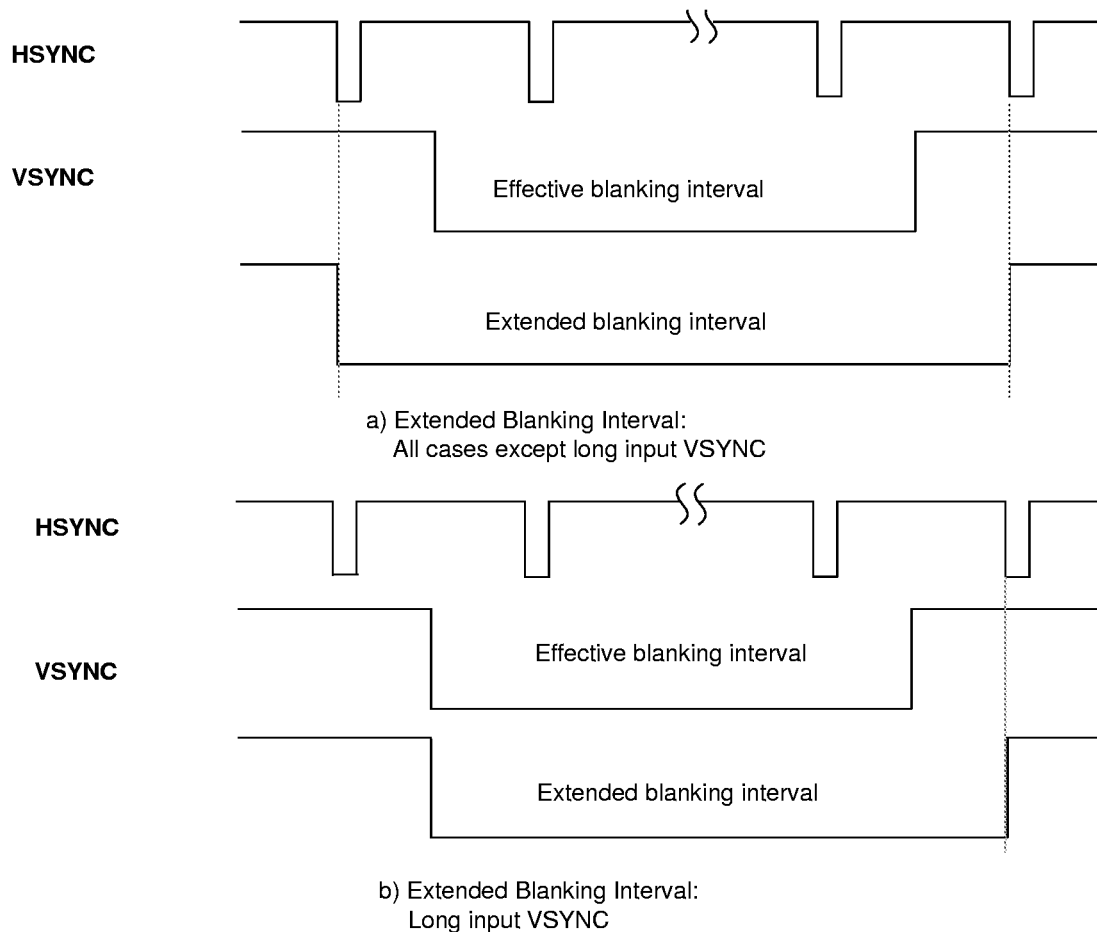

Figure 11. Extended blanking interval derivation from effective blanking interval
- The Extended Blanking Interval is derived from the effective blanking interval as follows. When the effective blanking interval ends in the middle of a complete line (e.g. because of odd NTL in interlaced output, or non-integer NBL) it is extended until the end of the complete line. When the effective blanking interval starts in the middle of a complete line (for the same reasons), and the VSYNC is other than the long input case, the effective blanking interval is extended to cover also the preceding part of the complete line. This is illustrated in Figure 11.